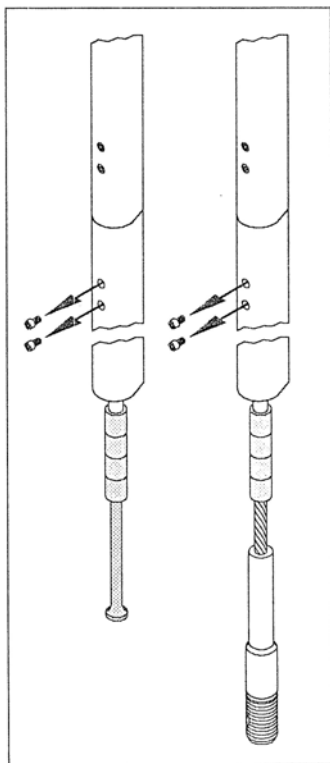
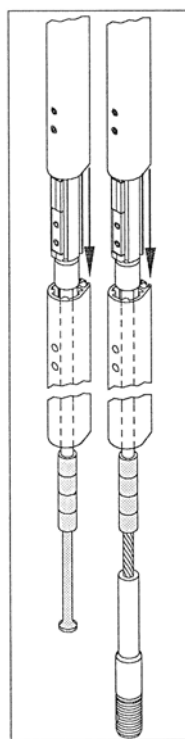

Bild 1 / fig. 1
Bild 2 / fig. 2
From the bottom end of the stay, slide on and feed the top profile along to the top end of the stay. When in place, assemble a pair of split join sleeves over the stay at the spacer tube, marked red, directly under the top section (fig. 1). Insert a stainless steel plate (1) into the recess on the top half of the join sleeve and make sure that the holes of the plate and the join sleeve are on the same side. Push the join sleeve half of its length into the upper foil section (2). (fig. 2).